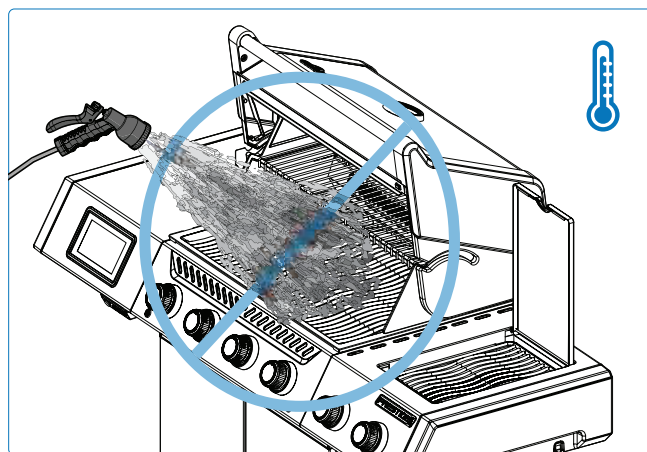

Fig. 20
1. Never douse a flame or control flare-ups with water (**Fig. 20**).